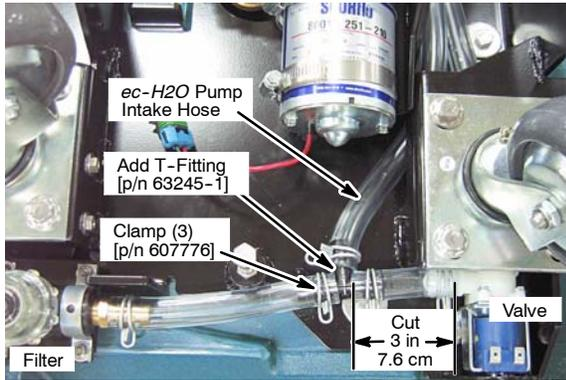

Fig. 36
- Cut the solution hose located between the valve and filter as described below (Fig. 36). Using the black T-fitting [p/n 63245-1] and 3 wire clamps [p/n 607776], connect the *ec-H2O* pump intake hose to cut hose as shown (Figure 36).